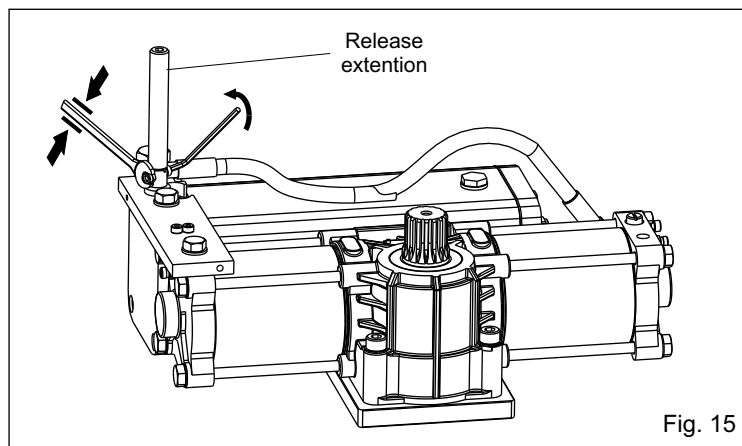

Fig. 15
4.1. Before putting the operator into the carrying box, install the release extension (Fig. 15).